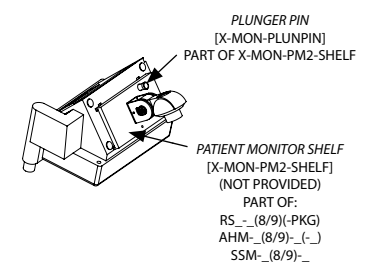

Figure 2
3. Once the **ADAPTOR PLATE** is inserted, rotate 90° to release the **PLUNGER PIN** and align with the **HOLE** in the **ADAPTOR PLATE** as shown in **Figure 2**.
(Figure 2)